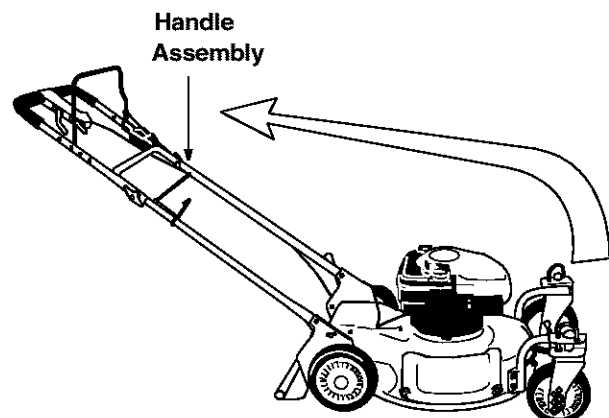

Figure 4
- Raise complete handle assembly, as shown in Figure 4, until it clicks into place. Make sure not to kink the control cables.